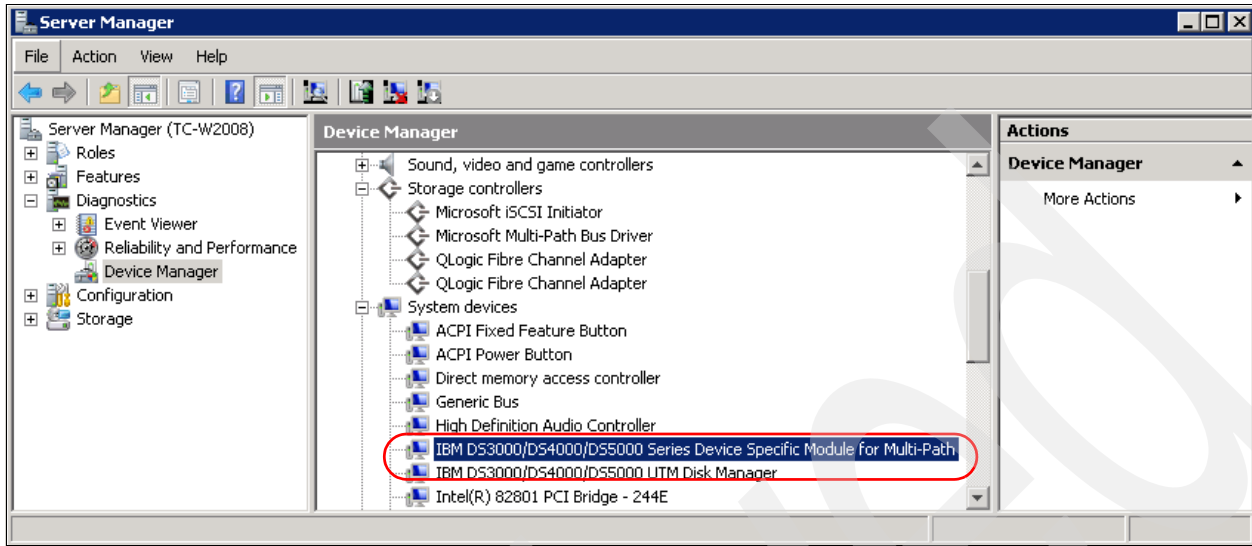

Figure 4-23 SM Failover (MPIO/DSM) Multi-Path Support
2. Open the Device Manager in Computer Management. There should be a Multi-Path Support entry under the SCSI and RAID Controller folder, as shown in Figure 4-23.